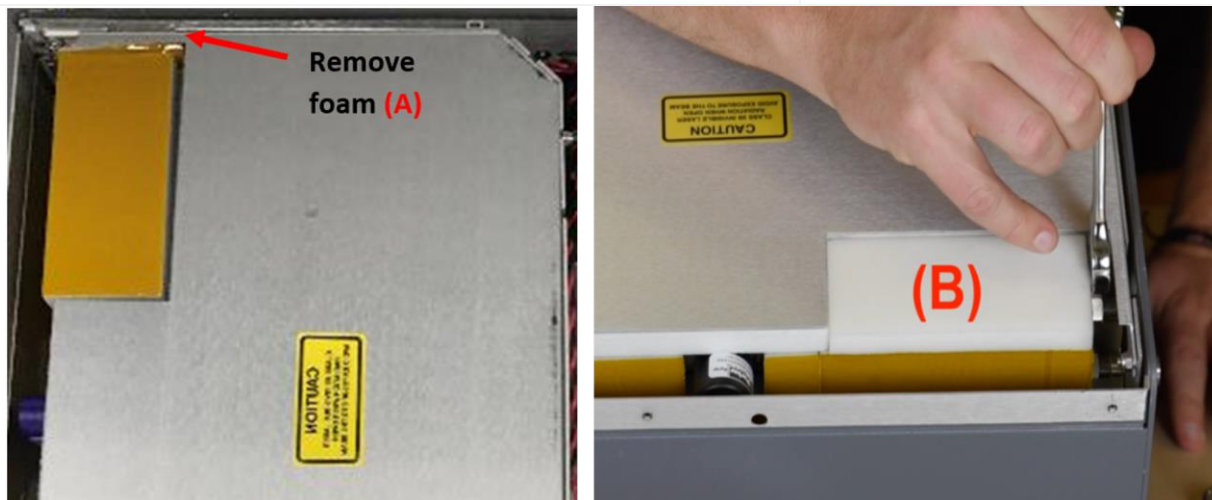

Figure 199. Remove Foam and Loosen Retaining Nut.
STEP 9 | Remove the small foam **(A)** piece covering the bulkhead nut near the Picarro inlet. Loosen the bulkhead nut counter-clockwise using a 5/8" wrench, and then remove the second foam cover **(B)** by sliding towards the outside of the analyzer case. Reference **Figure 199** for this Step.